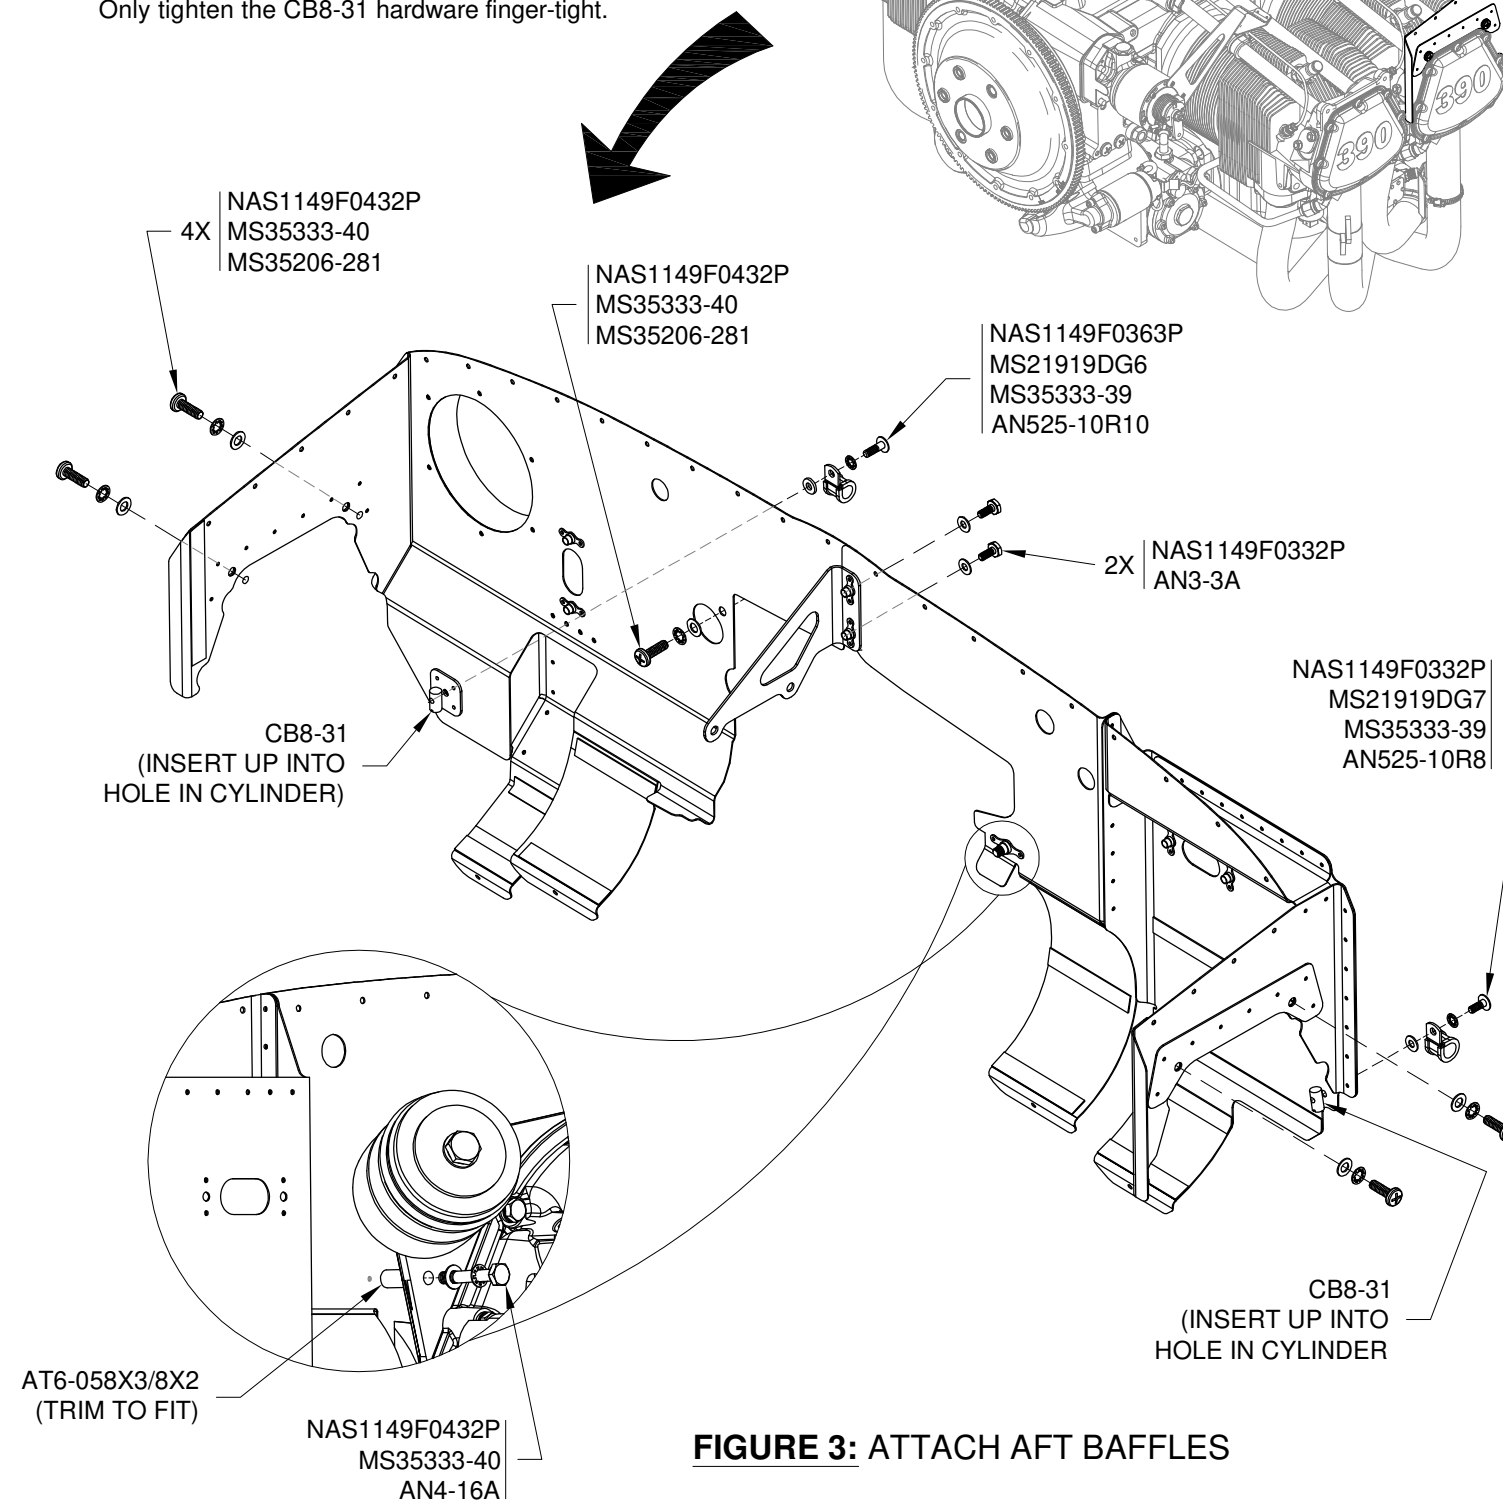

FIGURE 3: ATTACH AFT BAFFLES
Step 2: Fit the aft baffles to the engine as shown in Figure 3.
Step 4: Attach the aft baffles to the engine as shown in Figure 3.